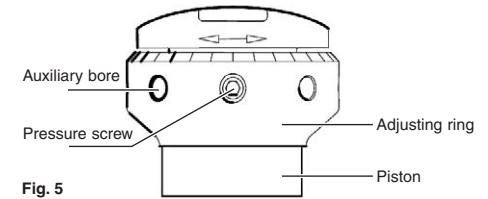

Fig. 5
- Loosen the size 2.5 pressure screw on the adjusting ring (Fig. 5); the adjusting ring can be set. Turn the adjusting ring by hand to the right (piston moves downward) until you feel noticeable resistance.
- Tighten the adjusting ring using a suitable tool (e.g., hexagon socket screwdriver) by ½ turn; use the special holes in the adjusting ring to do this (Fig. 5).
- Fix the adjusting ring by tightening the pressure screw (Fig. 5).